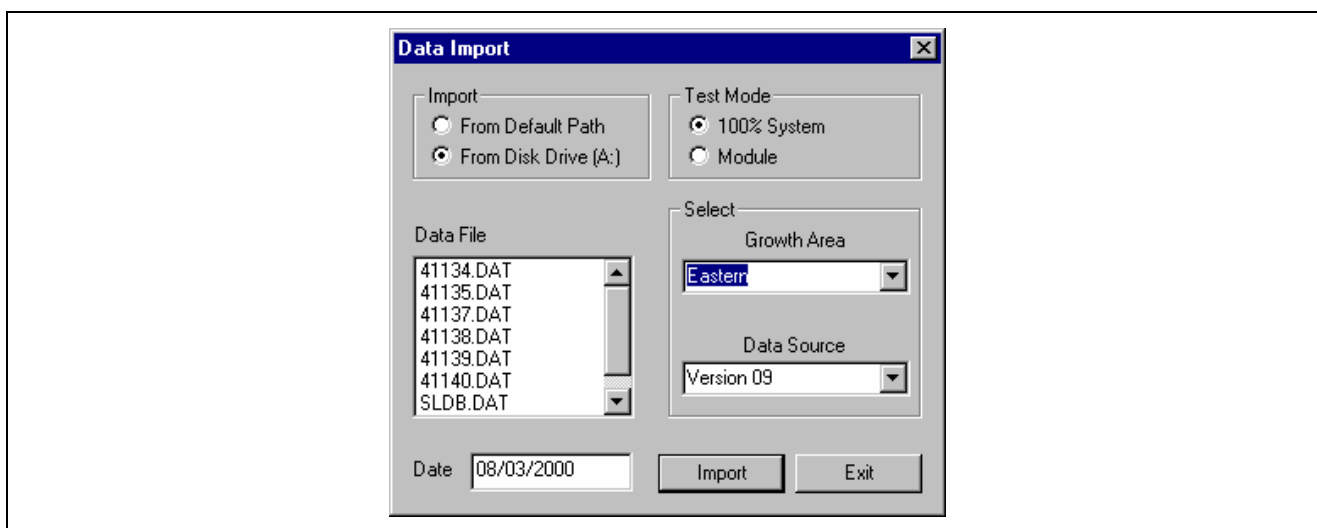

Fig. 6-32 Data Import, Screen III
10.3 The window of Fig. 6-32 will appear showing a list of Lot Identifiers.